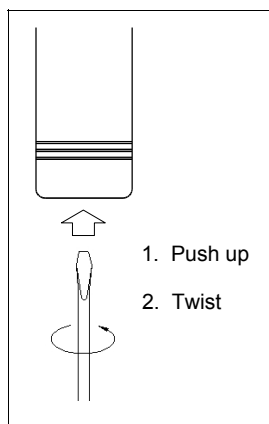

Fig. 2. Opening the case
1. **Remove the cover.** Remove the GEM-TRANS2 transmitter cover by inserting a small screwdriver into the slot at the bottom and twisting while applying upward pressure. See Fig. 2 below.